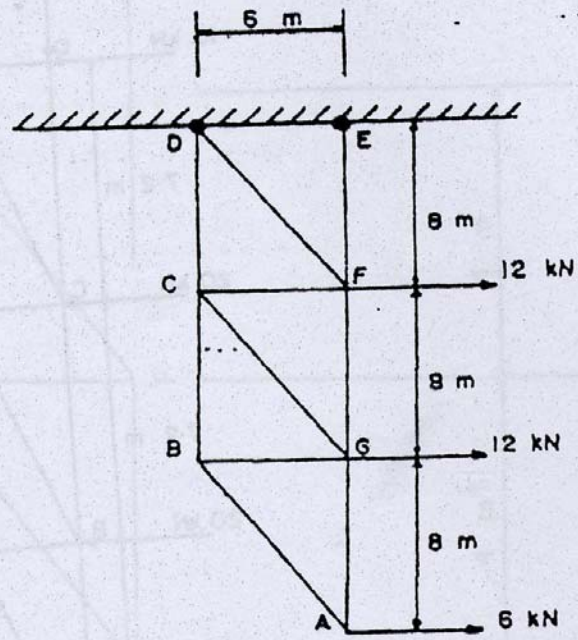

FIG 8
8. The plane, pin-jointed frame shown in Figure 8 is hinged to a rigid ceiling at D and E. Use the method of joint equilibrium to determine the forces in the members of the frame and hence deduce the reactions at D and E. All steps in the calculations must be clearly shown and the forces illustrated on a sketch of the frame.